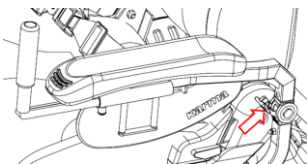
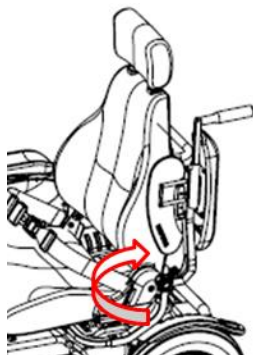

Figure 5.11
Figure 5.12
5.2.3.1 By pressing Armrest Lock Joint lever, the armrest can be lifted backwards. (Figure 5-11, Figure 5-12)